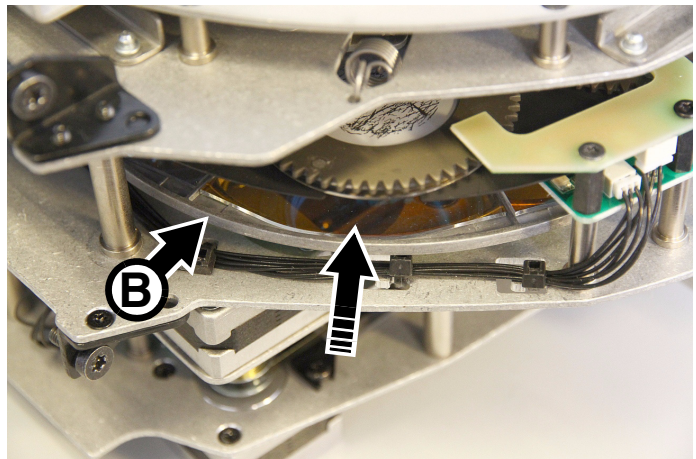

Figure 21: Color filter installation
6. See Figure 21. Slide the filter fully into its clip in the center of the color wheel. Make sure that the outer edge of the filter locates inside the lip (arrowed) on the edge of the color wheel so that the filter is held securely.